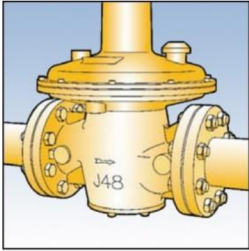

Fig. 1
3. The direction of gas flow must be the same as the arrow on the regulator body. See Fig.1.